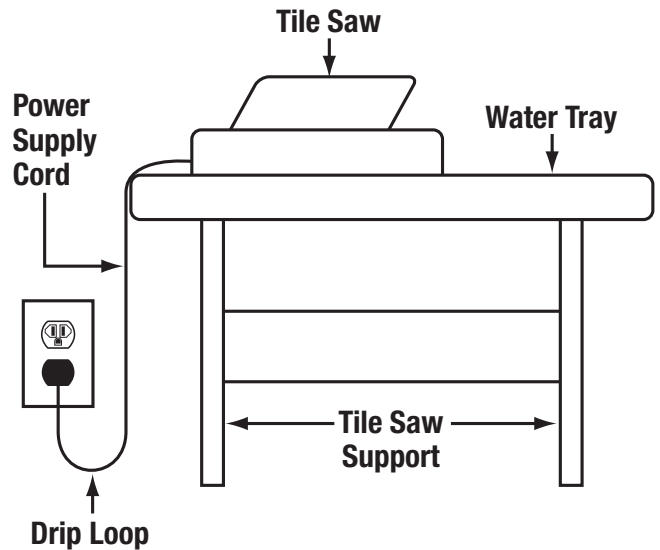

Fig. 2
- **POSITION OF TILE SAW:** To avoid the possibility of the appliance plug or receptacle getting wet, position the tile saw to one side of a wall-mounted receptacle. The user should arrange a “drip loop” in the cord connecting the saw to a receptacle. (Fig. 2)
The “drip loop” is a section of the cord that hangs below the level of the receptacle or below the connector, if an extension cord is used, to keep the water that travels along the cord from coming into contact with the receptacle. (Fig. 2)